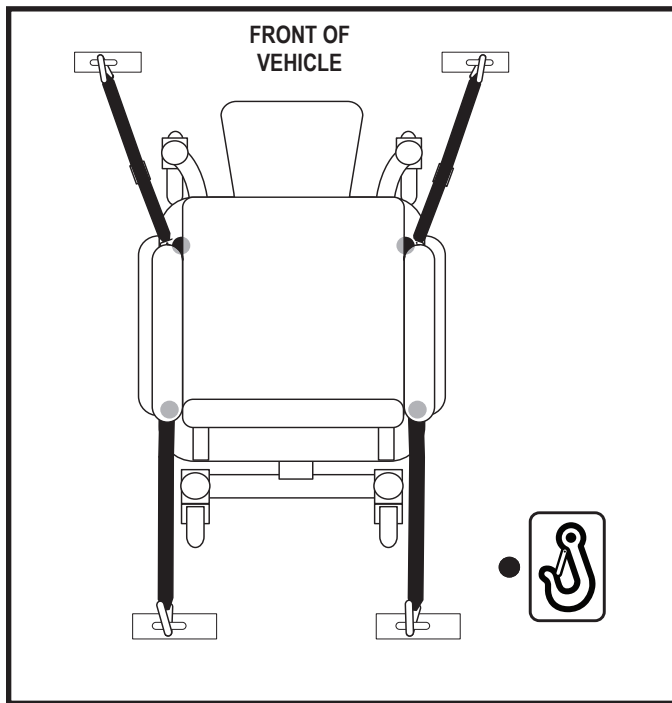

Figure 1. Securing the Power Chair
- Attach the four tie-down straps only to designated, labeled transit securement points indicated by anchor symbols on the power chair. **See figures 1 through 12.** Tighten the straps to sufficiently remove all slack.
- Position the anchor points for the rear tie-down straps directly behind the rear securement points on the power chair. The front tie-down straps should anchor to floor points that are spaced wider than the power chair to provide increased lateral stability. **See figure 1.**